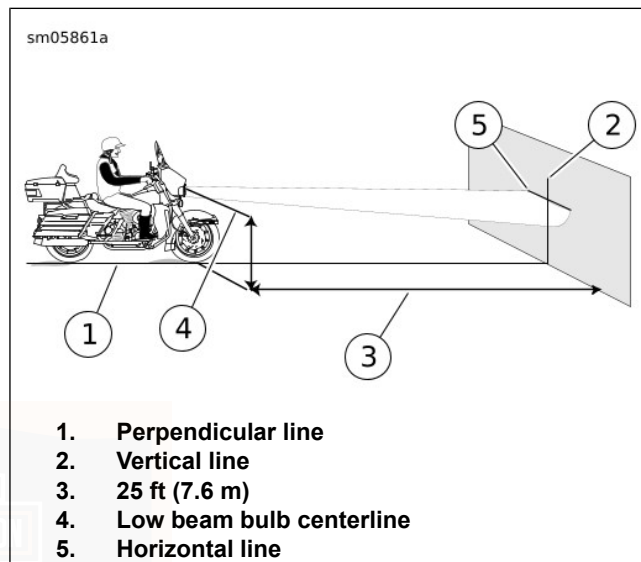

Figure 91. Headlamp Alignment: LED Type (typical)
- b. **LED, fork-mounted fairing:** See Figure 91. At the measured distance.
- b. **LED, fork-mounted fairing:** See Figure 91. Top of hot spot at mark with headlamp set to **low beam**.